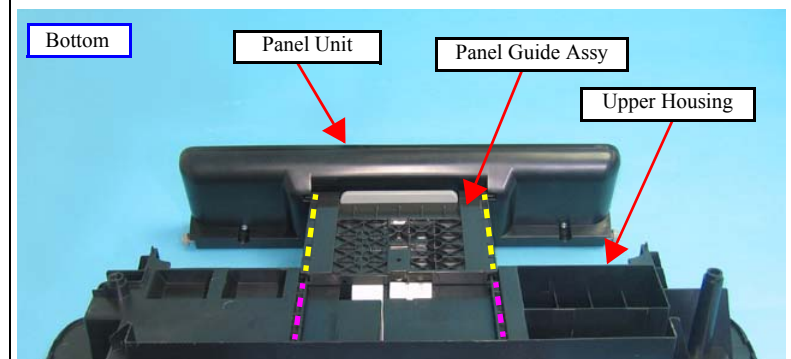

Figure 4-20. Installing the Panel Unit
1. Align the grooves --- (x2) of the Panel Guide Assy with the grooves --- (x2) at the bottom of the Upper Housing. (Refer to Figure. 4-20.)